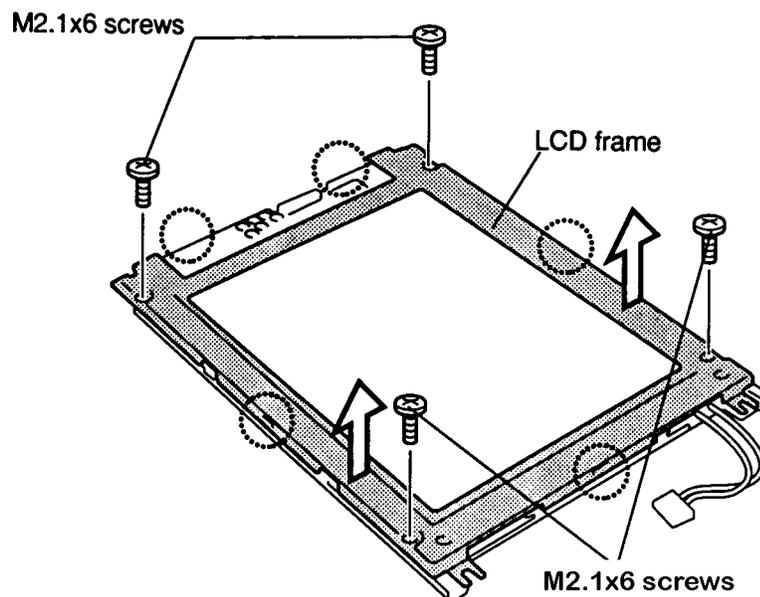

Figure 4-32 Removing the T2100CT LCD module screws
To remove the T2100CT's FL, follow the steps below and refer to Figures 4-32 through 4-34.
3. Place the LCD module face down and remove the **four M2.1x6 screws** (Figure 4-32).
4. Unsnap the five latches securing the **LCD frame** to the LCD module (Figure 4-32).
To install the T2100CT's FL, follow the steps below and refer to Figures 4-32 to 4-34.
3. Lay the module in the **frame** and secure the five **latches** (Figure 4-32).
4. Secure the module to the **frame** with the four **M2.1x6 screws** (Figure 4-32).